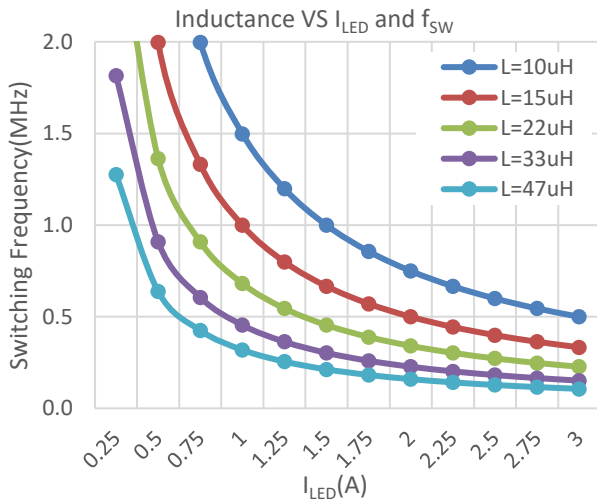

Figure 6, minimum fsw VS inductance based on ripple current ratio=20%, VIN=12V, VOUT=6.2V
(5) The figure 6 and 7 shows quick reference charts for inductor selection